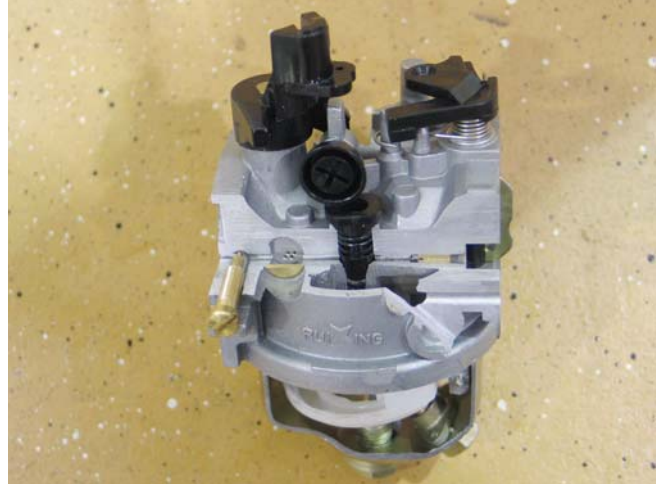

Figure 4.48
**NOTE:** In cut-away view, the passage by the metering port is visible. See Figure 4.48.